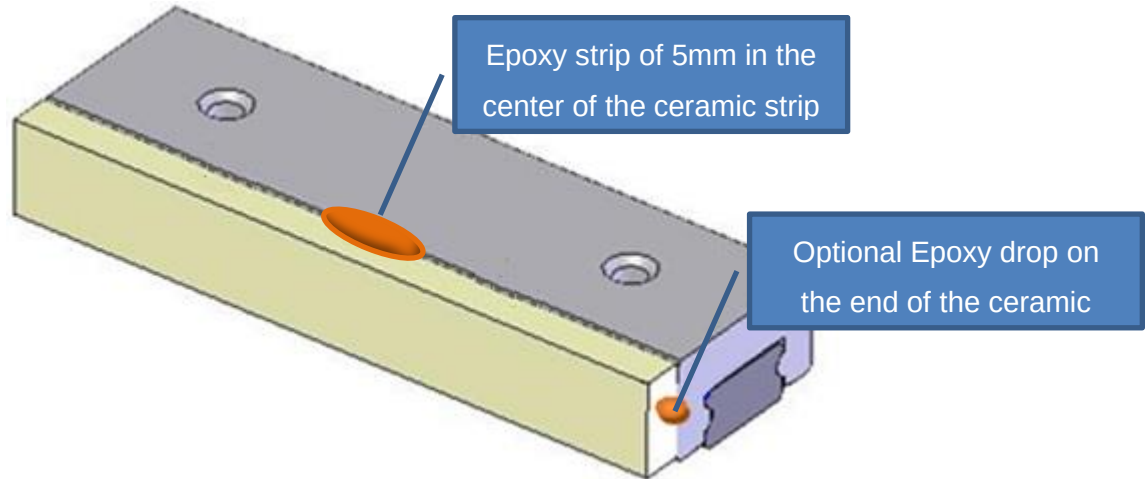

Figure 1: Bonding the Ceramic Driving Strip
4. Apply Epoxy adhesive on the center of the Ceramic Driving Strip surface, about 5 mm length (see Figure 1). For short strips up to 10mm, a single drop can be applied on each end of the Ceramic Driving Strip (see Optional Epoxy drop in Figure 1). The Epoxy must bond the strip to the slide. Recommended adhesive: Araldite 2014-1 or compatible.